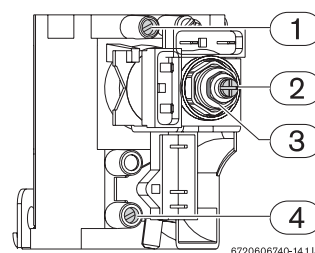

Fig. 3 Pressure measuring points
- ▶ Using the adjustor (Fig. 3, pos. 3) regulate the pressure to achieve the values indicated in table 1.
- ▶ Using the adjuster screw (Fig. 3, pos. 2) regulate the pressure to the values indicated in table 1.